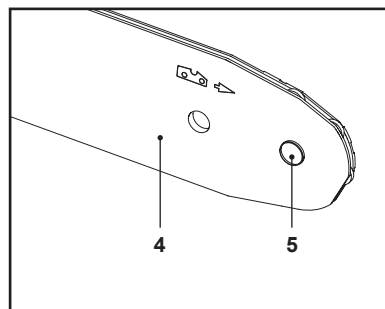

Fig. 1e
7. The saw chain movement is as indicated by the arrow (Fig. 1e). Make sure the saw chain (3) is properly placed over the sprocket wheel (5) of the guide bar (4).